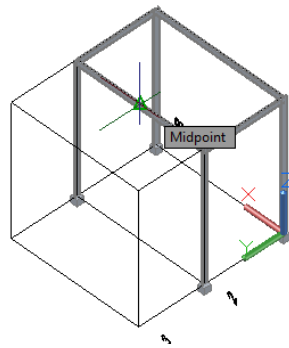

Figure 3-42 Selecting the first point
4. Rotate the model and select the midpoint on the top edge of the member, as shown in the Figure 3-42; you are prompted to select the second point.